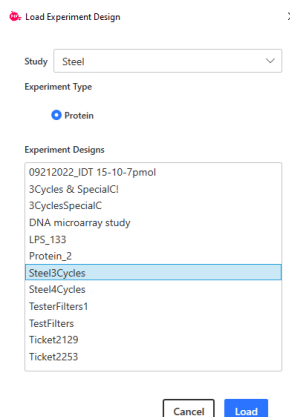

Figure 6.3. Load Experiment Design window.
2. Load an .xpd file made from the Experiment Designer by clicking the Load button in the Position 1 pane. The Load Experiment Design window will appear. (See Figure 6.3.)